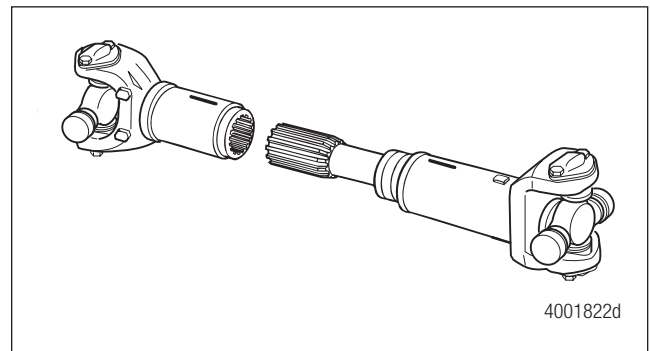

Figure 8.8
3. Install the slip shaft into the slip yoke. Ensure that you reassemble the sections into their original positions by using the marks made during disassembly. Figure 8.8.